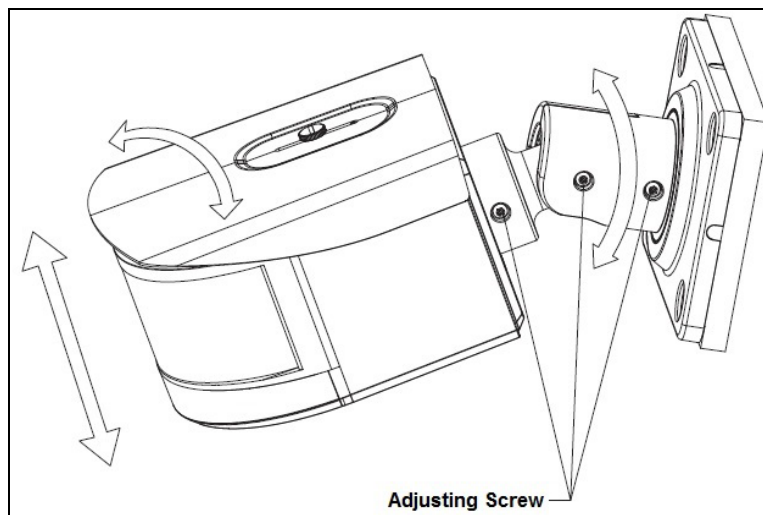

Figure 4-4
16. Adjust the monitoring direction of the camera. Use the Multi-purpose Tool to loosen the three set screws along the shaft of the camera, then position the camera by tilting, twisting, and rotating the camera as shown in Figure 4-4, below.